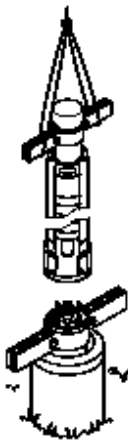

Fig. 3 Lifting the pump into position.
3. Lift the pump part by means of pipe clamps fitted to the extension pipe see fig. 3.